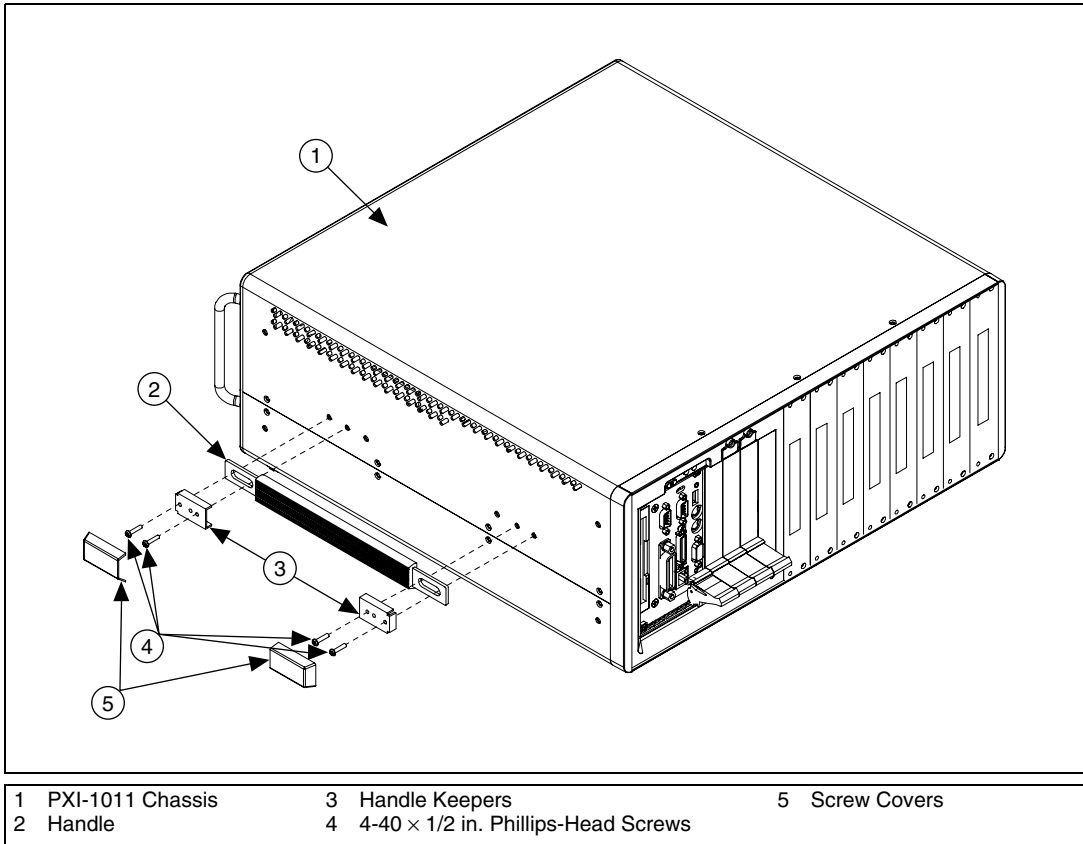

Figure 2. PXI-1011 Chassis Handle Assemble Removal (Side View of Chassis)
4. Remove the chassis handle while referring to Figure 2.